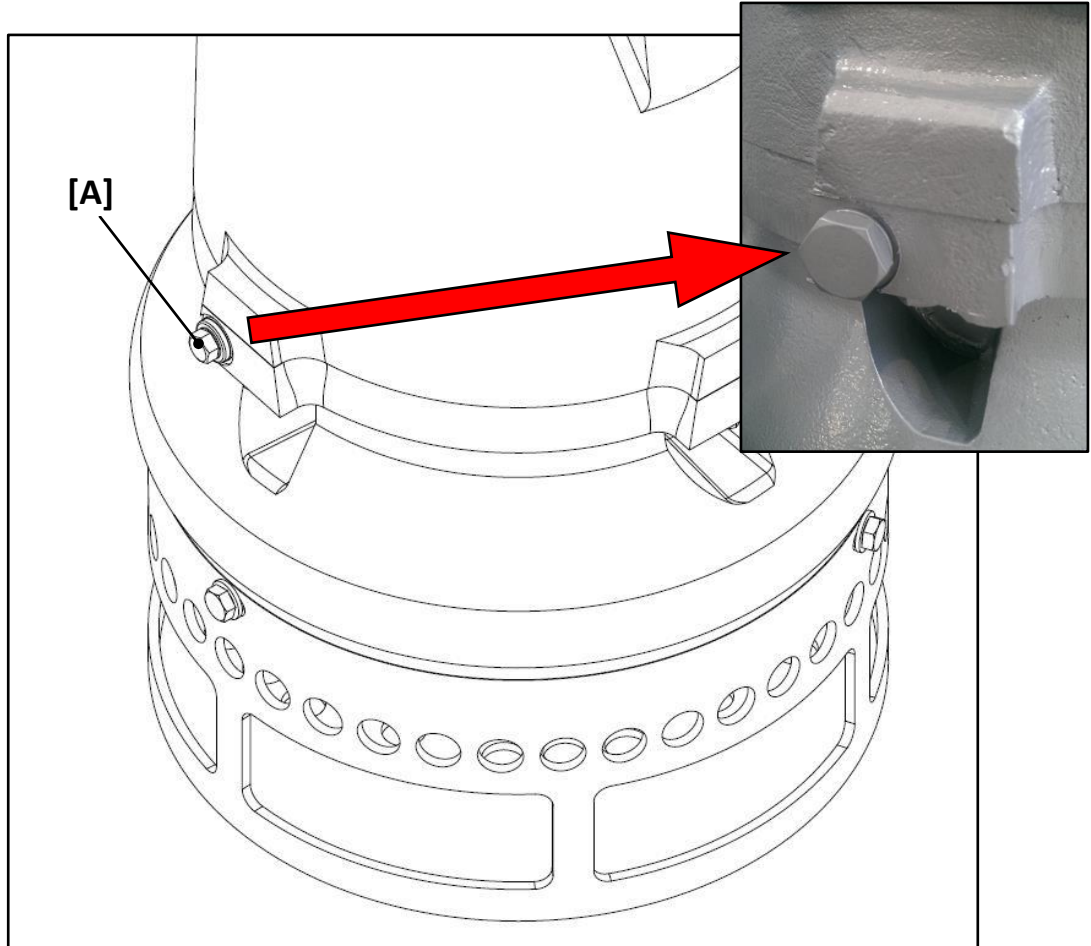

Fig. 5
- check the presence of the lubricating oil in the oil chamber by unscrewing just a little the “OIL” plug [A] to verify if some drop of oil comes out (see Fig. 5):